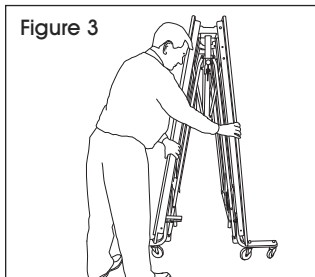

Figure 3
- Position hands halfway down ends of table for good leverage and spread the two sections apart. (See Figure 3)